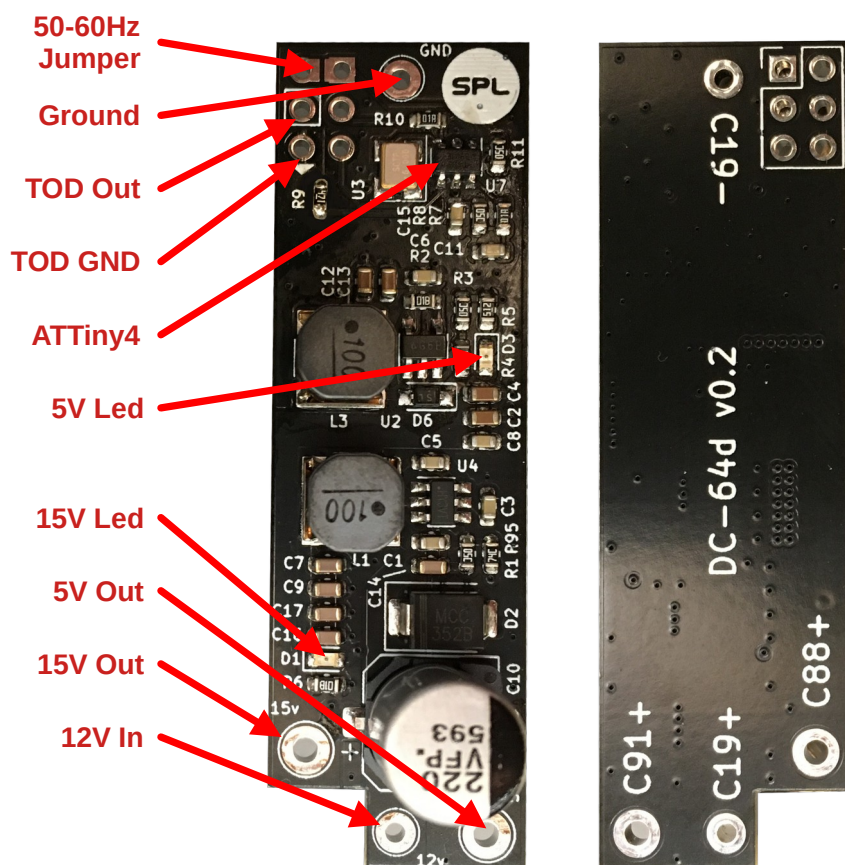

Figure 1: DC-64d Front & Back
- Identify the TOD output pin on the DC-64 as displayed in Figure 1.
- The frequency of the TOD clock can be selected with the 50-60Hz jumper depicted in Figure 1. With the jumper left open TOD will have a frequency of 50Hz. Conversely, closing the jumper with a ball of solder will cause the ATTiny4 microcontroller to generate a 60Hz TOD clock.